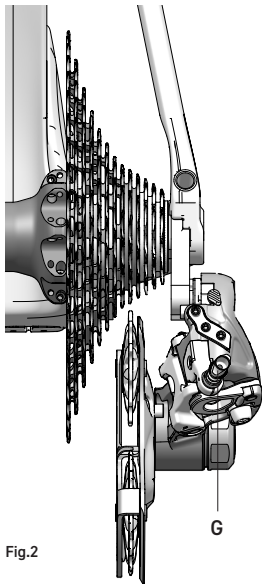

Fig.2
- if the upper wheel is on the right side of the sprocket and/or the rear derailleur fails to rise on the largest sprocket, turn the adjuster screw anticlockwise (unscrew) (G - Fig. 2) to move the rear derailleur inwards